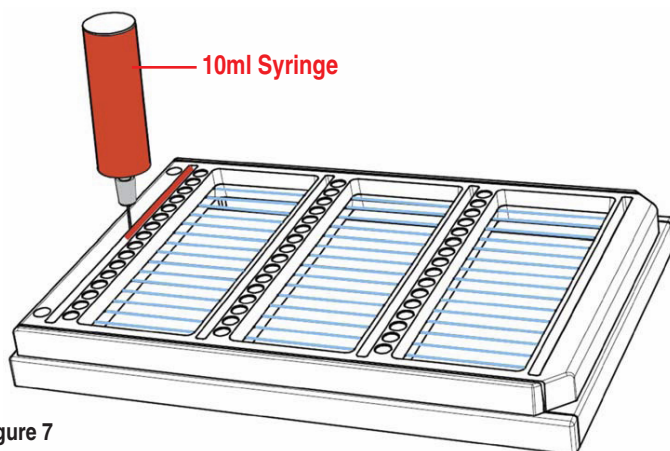

Figure 7
7. Insert the sealant sealing paste using the syringe (10ml size) with the orange delivery nozzle into the first long trough #1 (Figure 7). Ensure the sealing paste completely encloses each broken end of the capillaries without any entrapped air bubble. Fill the entire trough to the top with sealing paste.